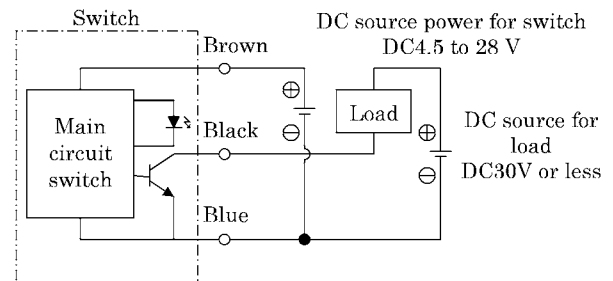

Fig.2 Fundamental circuit Example (2)
- (1) For T2 switch, connect the brown and blue lines to the positive and negative sides, respectively. If these lines are connected reversely, the switch and load are always kept activated. In this case, the indicator light is not lit. For T3 switch, pay special attention to Fig. 2 below.
- (2) Always connect the lead wires while referring to the colors shown on the lead wires. At this time, turn OFF the power to the unit in the electrical circuit on the connection side before starting the wire connection work. For T3 switch, if the wiring is performed incorrectly or the load is short-circuited, this may cause the switch, as well as the electrical circuit on the load side to break. Carefully connect the lead wires so that they are not connected incorrectly or short-circuited.